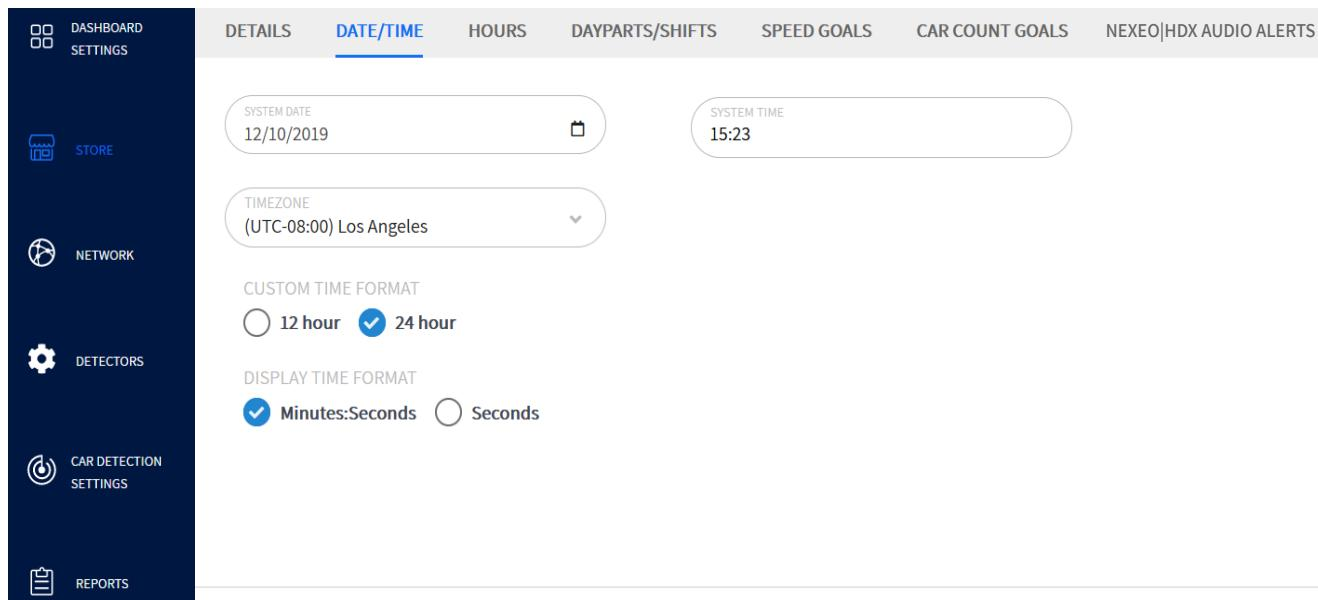

Fig. 4.2
**Example:** Fig. 4.2 shows the SYSTEM DATE and TIME. The TIMEZONE in this example is (UTC-08:00) Los Angeles. This would be the time zone chosen if your store is located in a city on the west coast of the United States (UTC-08:00 is Coordinated Universal Time with an offset of minus eight hours).